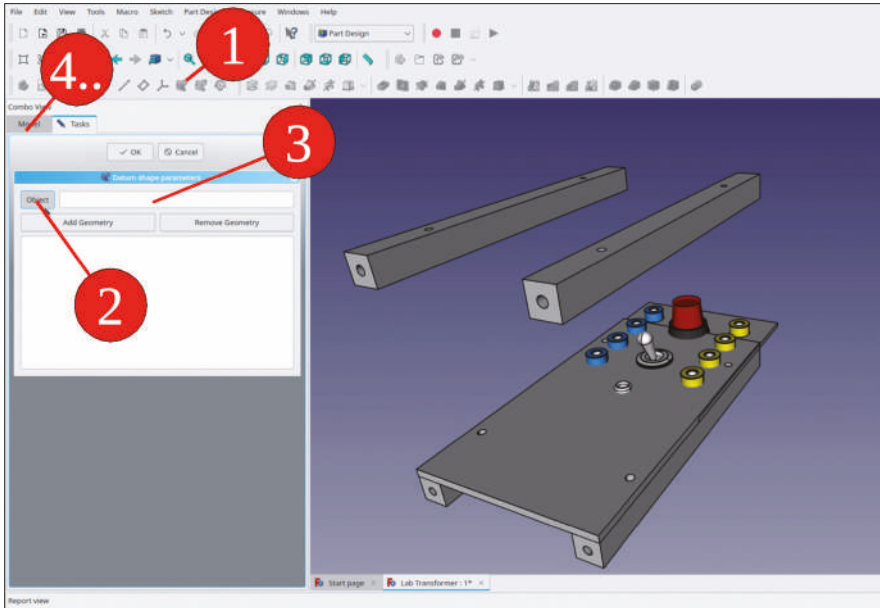

Figure 9-77
5. In the tree view, activate the body 'Chassis Sheet' by a double click. Click on the blue 'Create a shape binder' tool button. In the task window, click in the 'Object' button, which turns dark gray. Then, click the edit field next to the button (Figure 9-77).